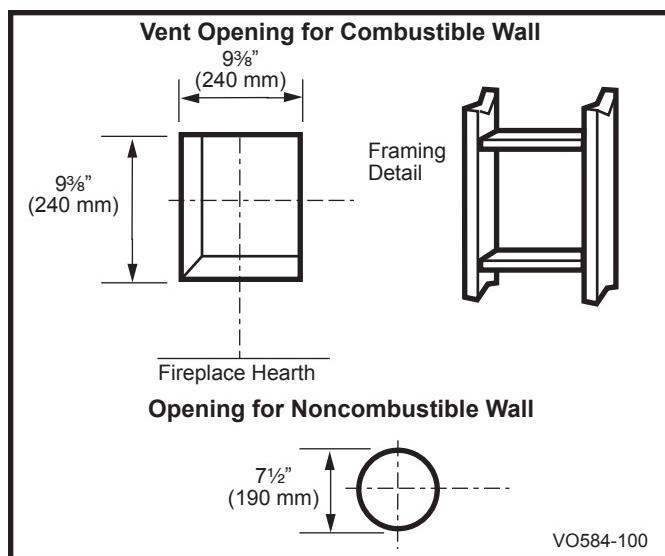

Fig. 33 Locate vent opening on wall.
Locate vent opening on the wall. It may be necessary to first position the fireplace and measure to obtain hole location. Depending on whether the wall is combustible or noncombustible, cut opening to size. (Fig. 33) (For combustible walls first frame in opening.)
Combustible Walls (Fig. 33): Cut a 9 $\frac{3}{8}$ "H x 9 $\frac{3}{8}$ "W (240 x 240 mm) hole through the exterior wall and frame.
Noncombustible Walls (Fig. 33): Hole opening must be 7.5" (190 mm) in diameter.
1. Establish vent hole through the wall. (Fig. 33)